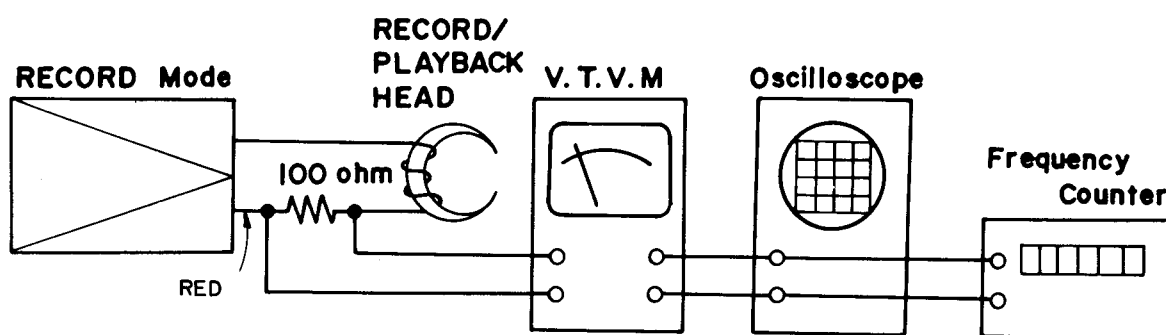

Figure 11
RECORD AMPLIFIER BIAS OSCILLATOR ADJUSTMENT (Refer to Figure 11)
- 1) As shown in Fig. 11, connect the resistor of 100 ohm ($1/4W$, $\pm 5\%$) in between the record/playback head terminal and the lead wire (Red) and then connect the V.T.V.M. to the both sides.